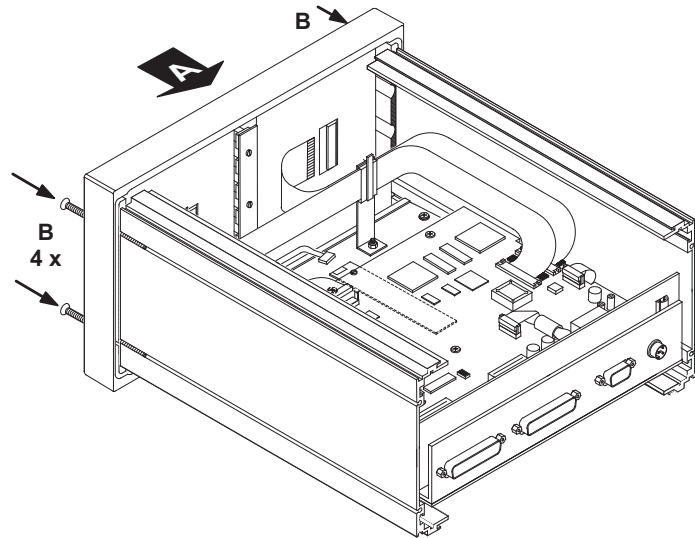

Fig. E 8-7: Mounting the front panel
- When the silicone has dried upend the front panel back to its position at the frame (see Fig. E 8-7, A). Check that the display cable or the key pad cable is put inside without canting or clamping between front panel and any case panel. Then fix it with the four Philips screws (see Fig. E 8-7, B).